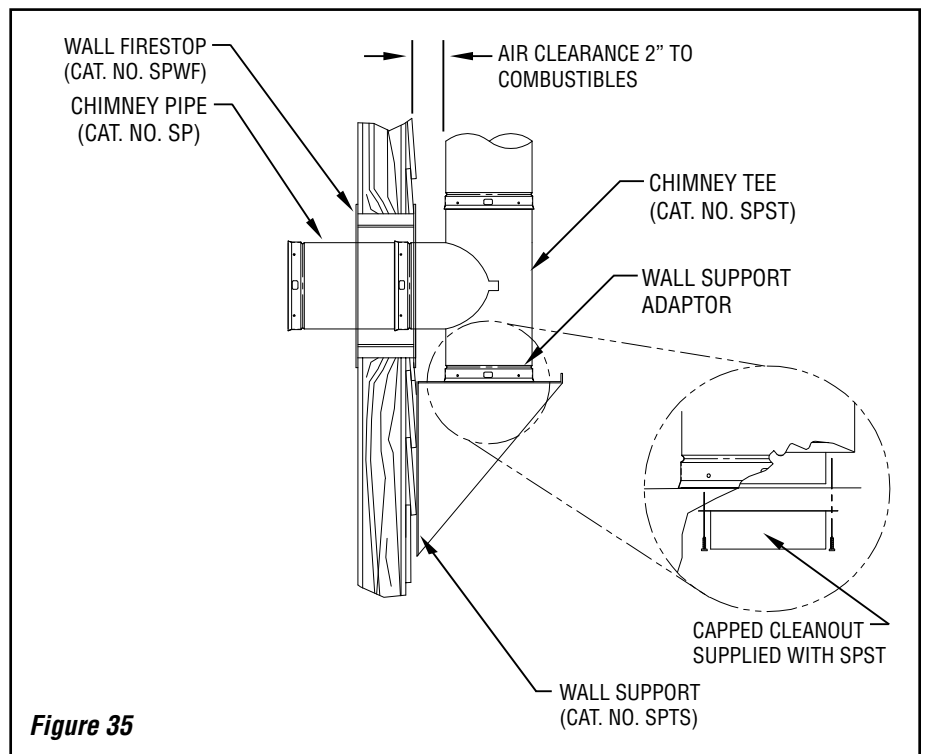

Figure 35
3. A 2-piece wall firestop (SPWF) must be installed in the framed opening from outside. The stainless portion is first installed from the outside of the opening. Push the remaining half through the opening from the inside until the plate is flush with stud. Use four (4) # 10 x 2-1/2" wood screws to attach opening (see **Figure 35**). Seal the outside plate with RTV sealant or similar.